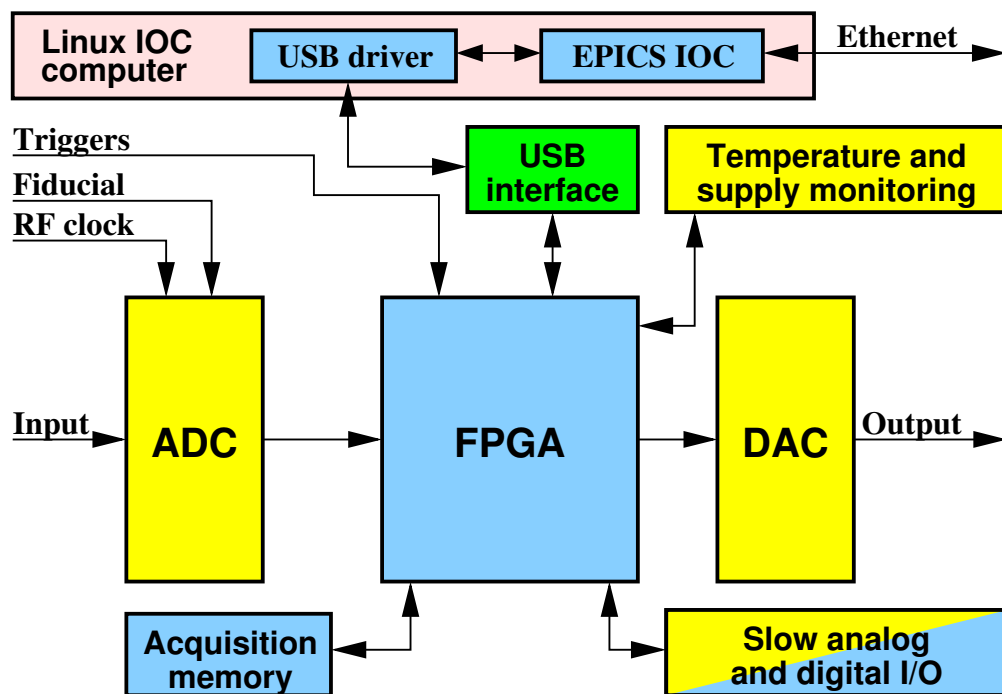

Figure 1: iGp12-372F block diagram
A top-level block diagram of the iGp12-372F system is shown in Figure 1. The main signal processing chain consists of a high-speed 12-bit **analog-to-digital converter (ADC)**, a **field programmable gate array (FPGA)**, and a high-speed 12-bit **DAC**, all driven by the **radio frequency (RF)** clock. In addition to performing real-time control computations, the **FPGA** interfaces to a number of on-board devices, such as high-speed data acquisition memory (**static random access memory (SRAM)**), low-speed analog and digital **input/output (I/O)**, as well as temperature and supply voltage monitors. In turn, the **FPGA** uses an internal **universal serial bus (USB)** connection to communicate to an embedded **input-output controller (IOC)** computer housed in the same chassis. The **IOC** runs the **Linux** operating system and is connected to the overall control system via the **Ethernet**.